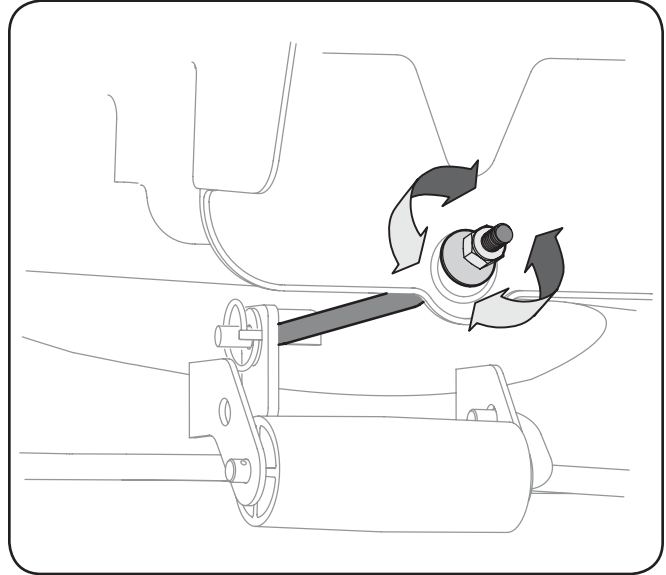

Figure 6-4
1. Locate the hex lock nut on the end of the deck hanger rod. See Fig. 6-4.
- To *lower* the front of the deck, loosen (thread outward) the hex nut, away from the front hanger bracket. See Fig. 6-4.